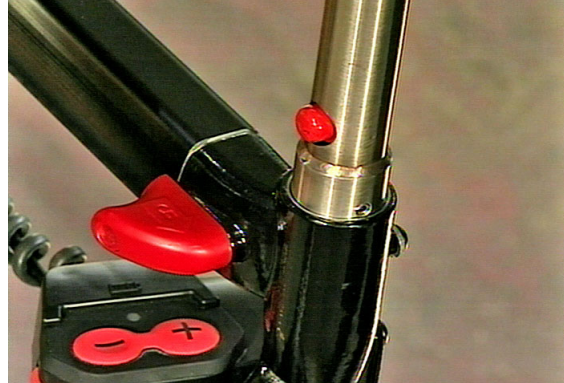

Figure 35a - Installed Push Bar
1. Insert the bars into each of the four corner sockets and push down until each locking mechanism is fully engaged (refer to Figure 35a).